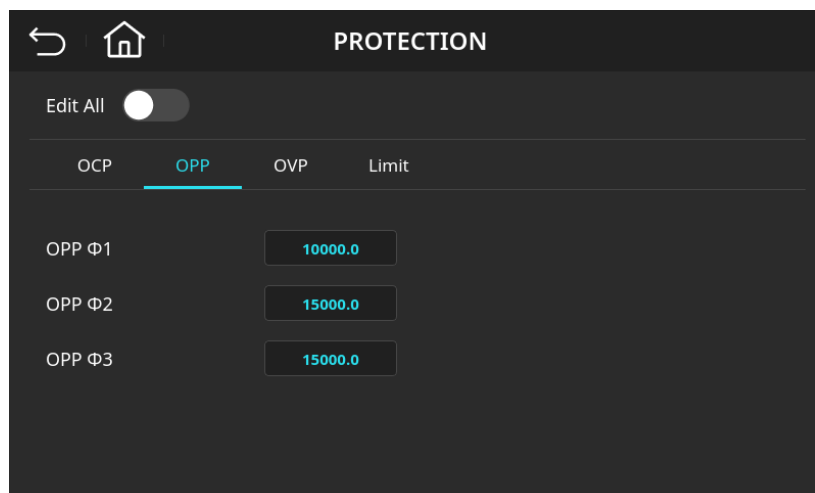

Figure 4-55 Output Overpower Protection Page (OPP Φ 1 = 10000.0 VA)
4. Enter **1**, **0**, **0**, **0**, **0** then press **Enter** to change the value to “10000.0”, as shown in Figure 4-55.